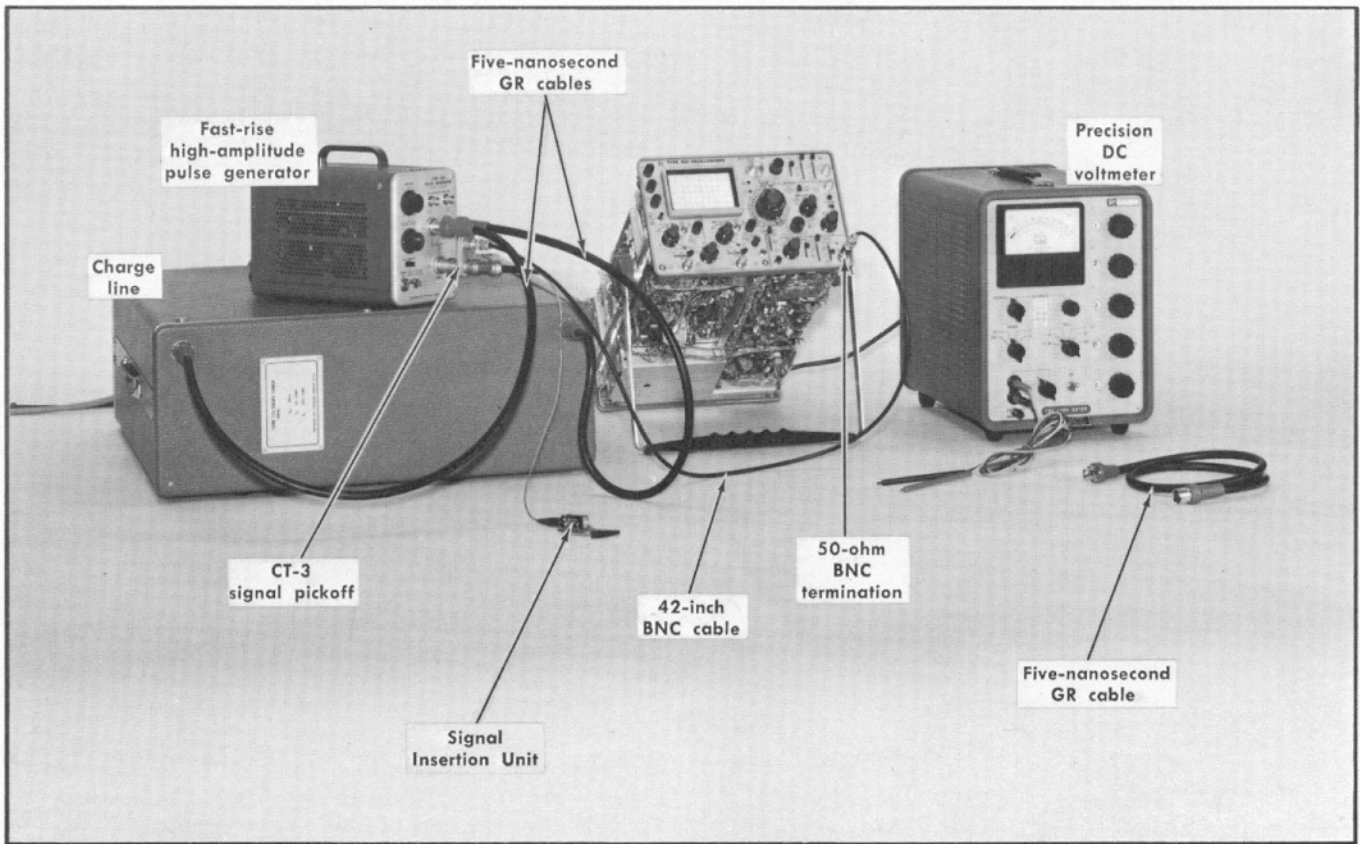

Fig. 6-25. Initial test equipment for steps 27 through 29.
a. Test equipment setup is shown in Fig. 6-25. (Note: The following procedure gives a different setup which supersedes that shown in Fig. 6-25.)